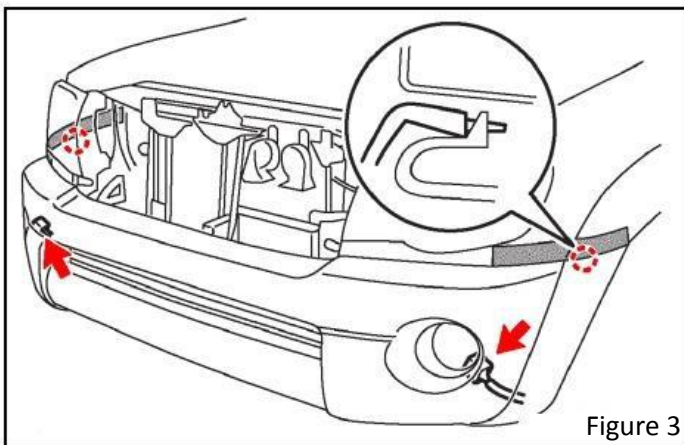

Figure 3
9. Disconnect the 2 factory fog light connectors as shown in **Figure 3** below.
10. Disengage the 2 claws as shown in **Figure 3** below.